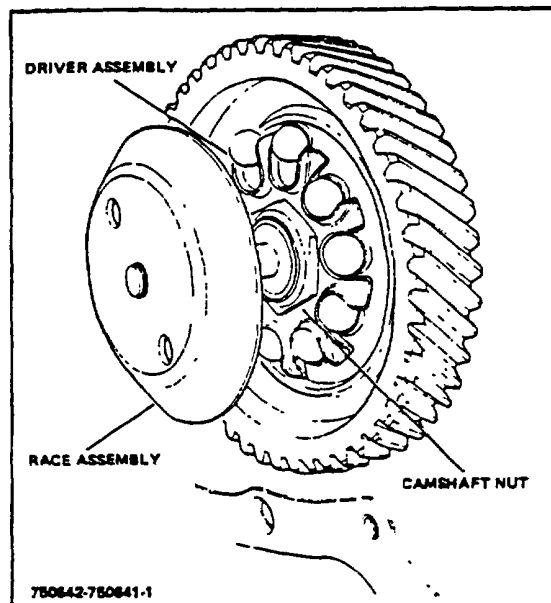
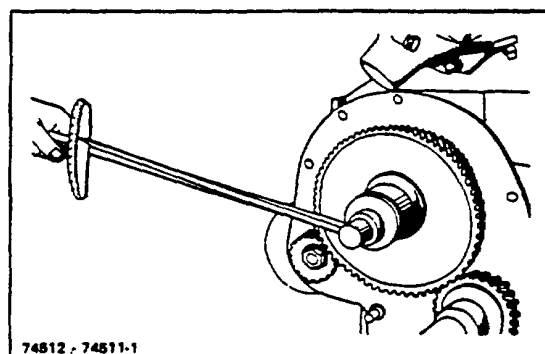

Figure 10-5. Camshaft Gear Nut Installation (F163 Engine)
Figure 10-6. Torquing Cam Gear Nut (Typical)
3. On F163 engines, install the driver assembly (Figure 10-5) and camshaft nut. On F135 engines install the camshaft gear nut only. Tighten camshaft gear nut to a torque of 175-180 lb. ft. (Figure 10-6).